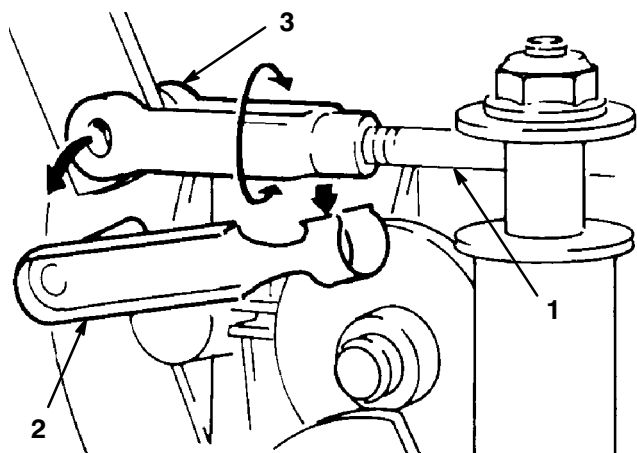

Figure 28
14. Locate the PTO rod end on the left side of the transmission (Fig. 28). Remove the clevis pin retainer and rotate the clevis to lengthen or shorten the rod until the desired clearance between the belt and pulley is attained.